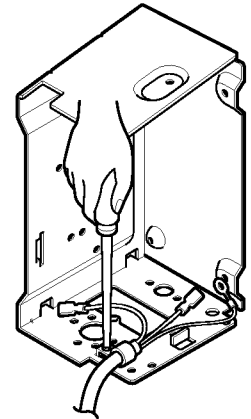

Figure 15
5. Pull the power cord. (See figure 15)